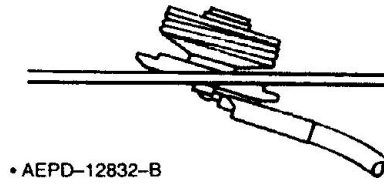

Figure 6. Bushing Assembly Insertion
5. Refer to Figure 6. The bushing assembly is now in a position to drop into the hole in the roof. It should be tilted at a slight angle and fed into the 3/4-inch hold. The threaded top will not fall through the hole.